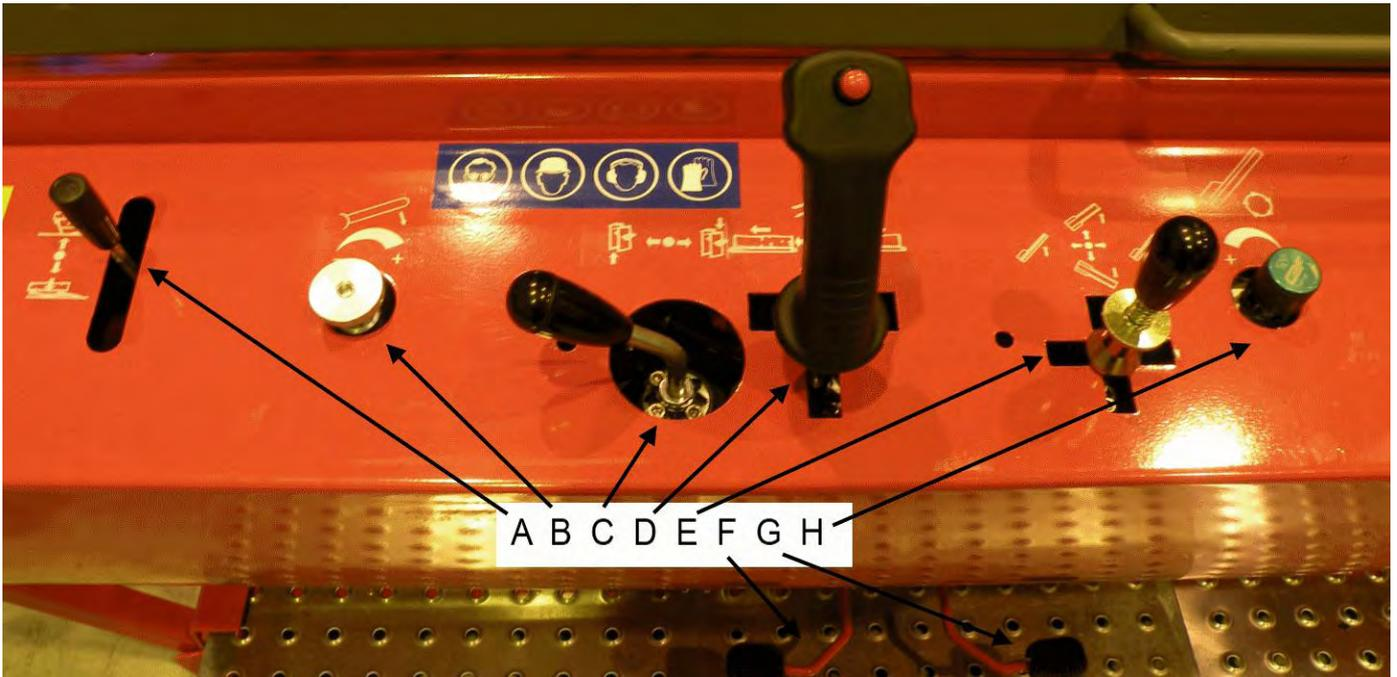
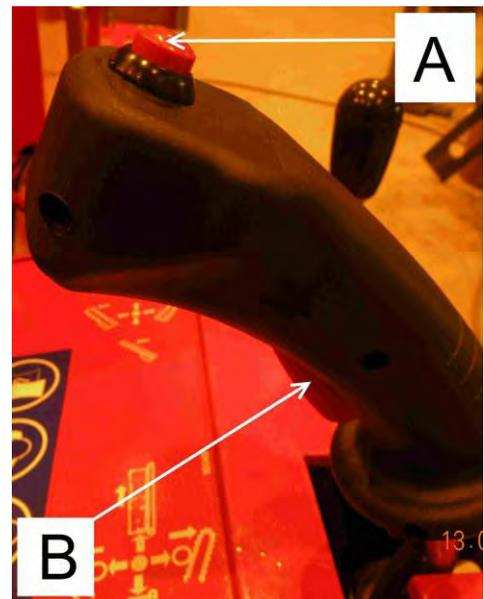

Figure 9. The machine's controls
Figure 10. Joystick
2. Use the control H in Figure 9 of Section 3.2 (anti-clockwise) to make sure that the conveyor is stopped, and start the machine.
3. Keep the lock A open, and move the control E in Figure 9 of Section 3.2 to the right to hydraulically lower the output conveyor to its lowest position.
1. Use the control H in Figure 9 of Section 3.2 to stop the conveyor.
2. Release the lock D holding the upper section of the conveyor in place, and hydraulically lower the conveyor to the lowest position with the operating lever E in Figure 9.
#### Names and functions of the controls in Figure 9
- Wood press: button A in Figure 10
- Blade chain activation: button B in Figure 10
The output conveyor can be controlled with the controls E and H in Figure 9. Use the control E to select the direction and elevation of the conveyor. The control H can be used to freely adjust the running speed of the conveyor. The speed can be decreased until the conveyor stops. Always stop the conveyor when placing it in the operating or transport position.
The splitting blade can be controlled hydraulically by moving the control lever C in Figure 9 up or down. Logs should always be as centred as possible when passing the blade in order to keep the size of the firewood consistent.
6. Start the cutting motion with the joystick D in Figure 9. The cutting motion must be normal when the blade returns up.
- a. Use the joystick D in Figure 9 to perform a few sawing motions without sawing any actual wood.
8. In especially cold weather, the cutting motion can be slow at first. If this is the case, repeat the motion with the splitting pedal (Figure 9, pedal G), until the oil warms up and the speed returns to normal.
9. Ensure that pressing the button A of the joystick in Figure 10 releases the wood press and that pressing the button B of the joystick starts the blade chain.
10. Start the splitting motion with the splitting pedal (Figure 9, pedal G), and stop it by opening the guard of the cutting and splitting section.
11. Ensure that the splitting beam returns to the initial position by holding down the pedal F (Figure 9).
12. Start the splitting motion by briefly pressing the pedal G (Figure 9).
13. Test run the input conveyor's feed and return motion with the joystick D in Figure 9.
14. Test run the lifting motion of the hydraulic wood press by moving the joystick D in Figure 9 forward and, at the same time, pressing the joystick button A (Figure 10).
15. Start the output conveyor by using the control H in Figure 9 to adjust the speed to an appropriate level.
The input conveyor feeds the wood to be processed into the splitter. Push the joystick D in Figure 9 of Section 3.2 to the upper right to feed wood into the machine. The feed can be cancelled by pushing the joystick to the upper left.
2. Raise the hydraulic wood press by pressing down the button A (Figure 10) of the joystick D (Figure 9) and by pushing the control lever forwards. Use the joystick D to feed wood into the machine with the input conveyor. Moving the joystick to the upper right activates the feed. The optical measuring device stops the conveyor when the desired length has been fed.
3. When the log stops, lock it in place with the wood press. The wood press is activated automatically when you lower the cutting flange with the joystick D in Figure 9 (also in Figure 10).
4. Cut the log by pressing the button B (Figure 10) of the joystick D. The button activates the blade chain. Then, lower the cutting flange by moving the joystick D backwards.
Ensure that the cutting flange's downward motion has not been adjusted (flow valve B in Figure 9 of Section 3.2) to be too fast in proportion to the size of the wood.